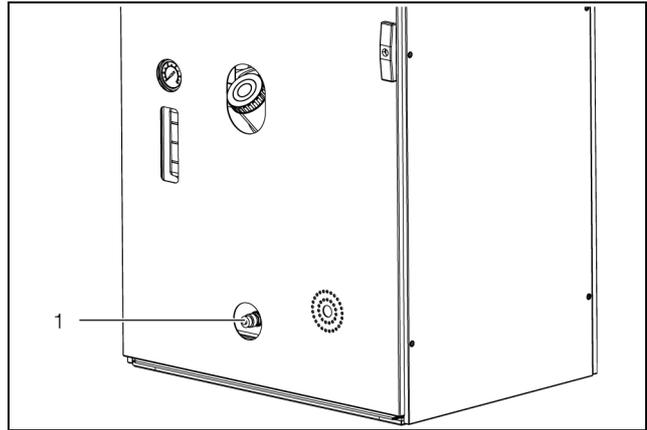

Fig. 48: Draining the tank
- Drain the cooling medium tank via the tank drain nozzle (fig. 48, item 1) either directly or using a hose into a container.